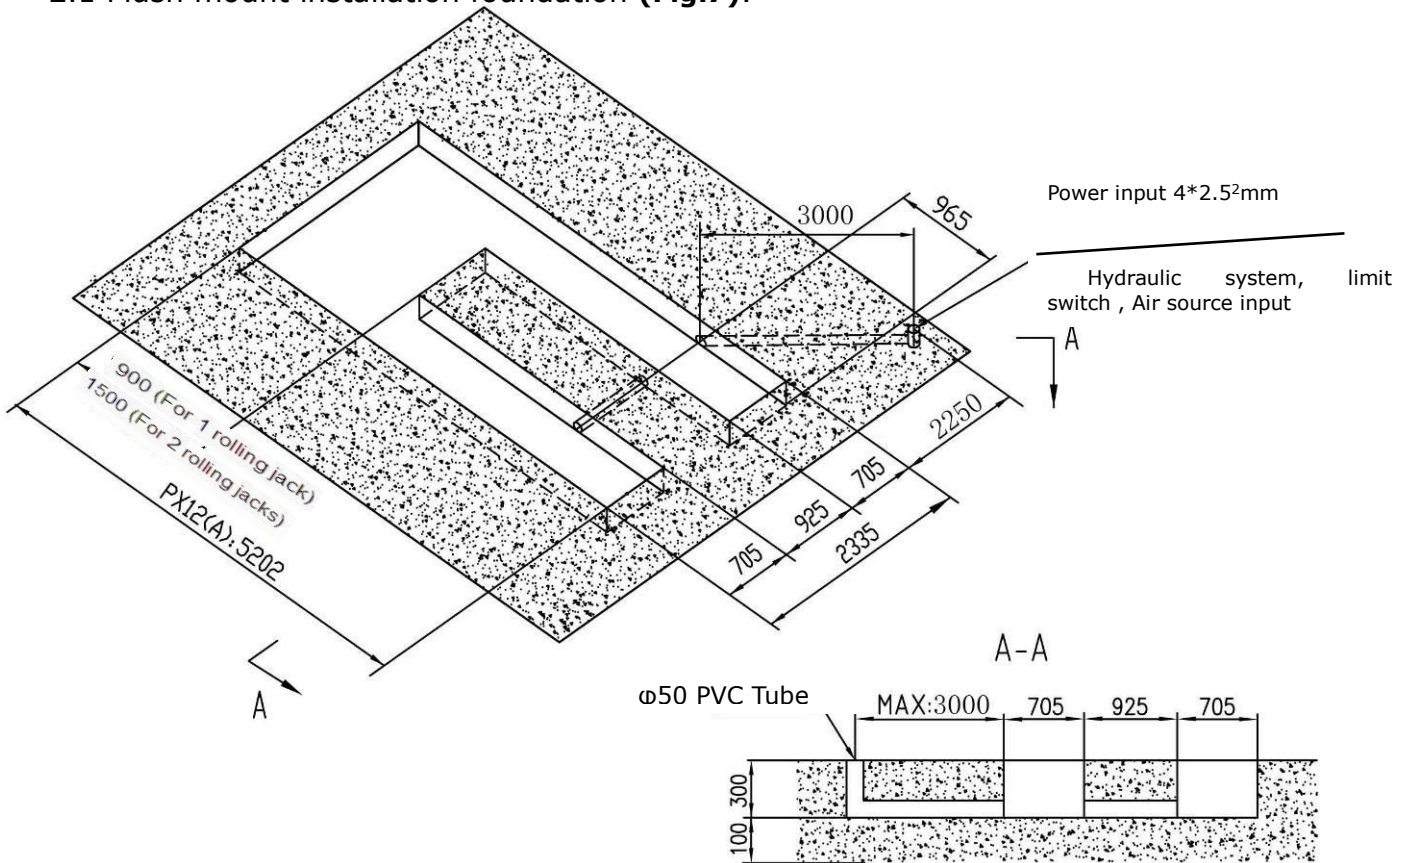

Fig. 7
2.1 Flush mount installation foundation (Fig.7).